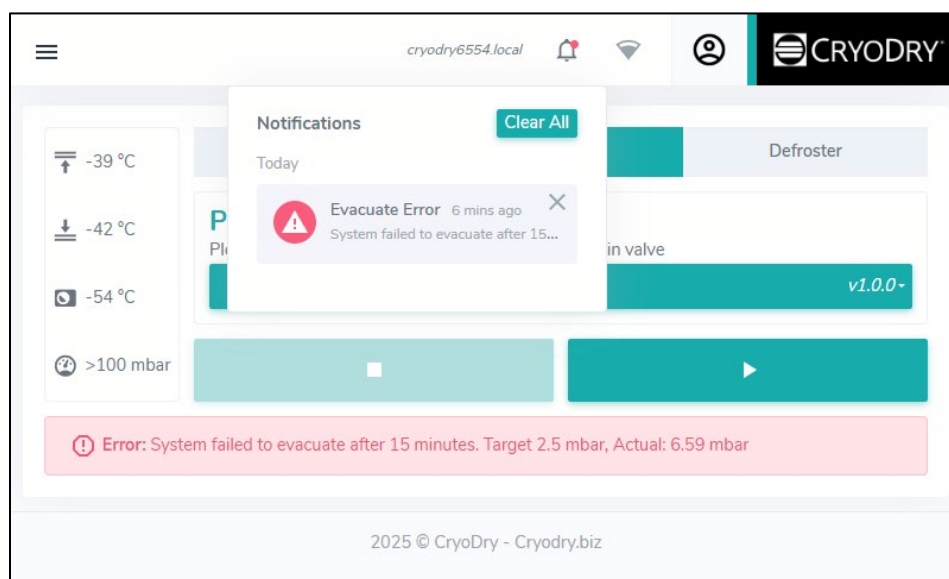

Figure 55
The Evacuation stage will only run for up to 15 minutes. If the evacuation has exceeded that time and the chamber pressure is more than 0.5 mbar from the setpoint, the Freeze Dryer will abort the cycle and enable the compressor in the manual page. If the recipe is in VO mode (see section **10.9.4.2 Vacuum Oven (VO) Mode**), then the compressor will not be enabled. The message below will appear, indicating that the Evacuation stage has failed (Figure 55).